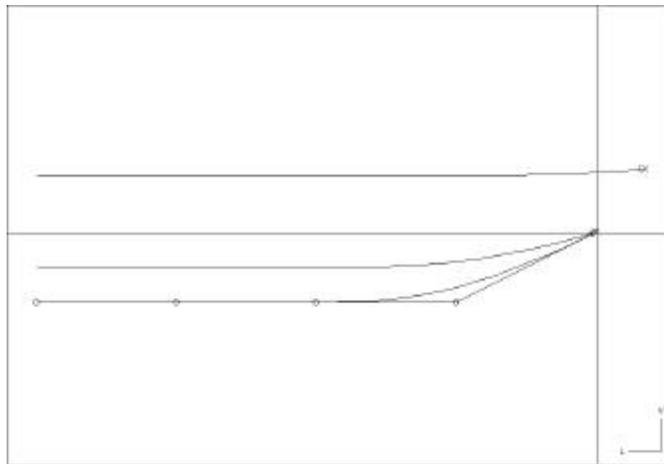

Figure 1-9: Centreline curve
4. In the *Create Curve* dialogue, select the **Free** tab, type the following information, and click **OK**. (See Figure 1-9.)